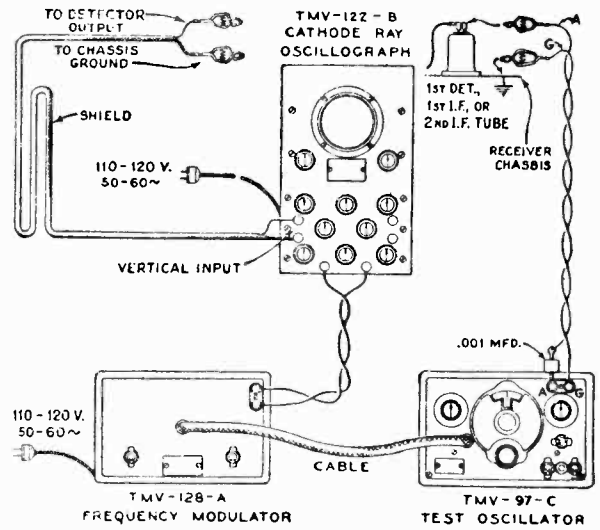
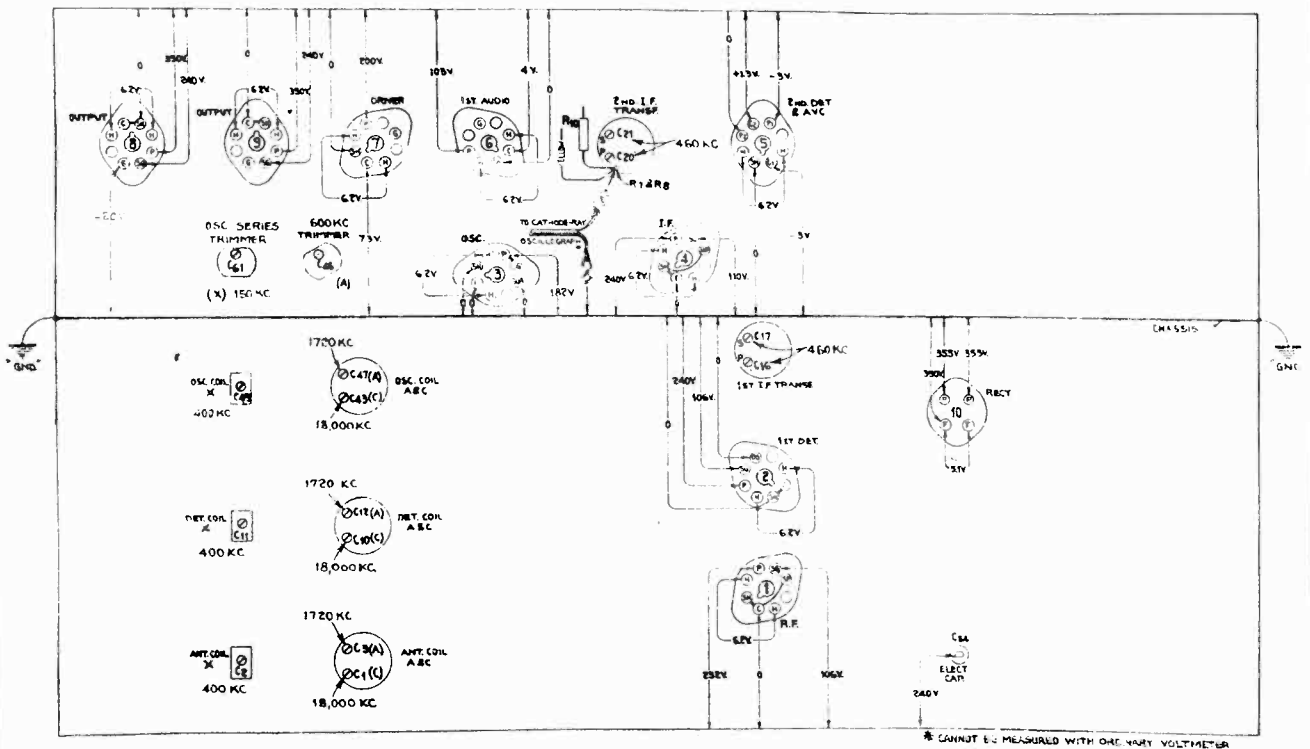

Figure 5—Alignment Apparatus Connections
Figure 6—Trimmer Locations and Radiotron Socket Voltages
The four trimmers of the two i-f transformers are located as shown by Figure 6. Each must be aligned to a basic frequency of 460 kc. The last transformer must be aligned firstly and the first transformer aligned secondly. For such a process, it is necessary to feed the output of the Full Range Oscillator to the stages in their order of alignment, adjusting the trimmers of each transformer and observing the effect at the second detector output on the Cathode-Ray Oscillograph. The proper point of connection of the Oscillograph is with its vertical "high" input terminal attached to the junction of R-7 and R-8, as illustrated in Figure 6, and with the "0" or ground terminal to the chassis. The "Ext. Sync" terminals of the Oscillograph should be connected to the Frequency Modulator as shown by Figure 5. A .001 mfd. capacitor installed in series with the Oscillator "Ant." lead will prevent the voltages of the stage under alignment from becoming upset. The vertical "A" amplifier should be "On" for the ensuing adjustments and its gain control kept at maximum. For each adjustment, the Oscillator output must be regulated so that the image obtained on the Oscillograph screen will be of the minimum size convenient for accurate observation. Proceed further as follows:—
- (b) Attach the output of the test Oscillator between the control grid cap of the RCA-6K7 i-f tube and chassis ground as shown typically by Figure 5. Tune the Oscillator to 460 kc. and set its modulation switch to "On." Regulate its output until the signal produces a wave pattern on the Oscillograph screen, adjusting the Oscillograph controls to give a shape which is convenient for peak indications. Cause the image to stand still on the screen by manipulation of the frequency and synchronizing controls. Then carefully tune the two trimmers C-20 and C-21 of the second i-f transformer to produce maximum amplitude (vertical deflection) of the oscillographic image. Under this condition the transformer will be sharply resonated to 460 kc.
The voltage values indicated from the Radiotron socket contacts to chassis on Figure 6 will serve to check on the location of causes for faulty operation. Each of these, as specified, should hold within  $\pm 20\%$  when the receiver is normally operative at its rated supply voltage. Variations in excess of this limit will usually be indicative of trouble in the basic circuits. The voltages given are actual operating values and do not allow for inaccuracies which may be caused by the loading effect of a voltmeter's internal resistance. This resistance should be duly considered for all readings. The amount of shunt resistance shunting the meter during measurement will determine the accuracy to be obtained, the error increasing as the meter resistance becomes comparable to or less than the circuit resistance. For the majority of readings, a meter having an internal resistance of 1000 ohms per volt will be satisfactory when the range used for each reading is chosen as high as possible consistent with good readability.
nary to have the tuning control of the Oscillograph on "Int." for this operation. After each trimmer has been peaked, the Oscillograph tuning control should be set to "Ext." and the Frequency Modulator placed into operation with its connections to the Oscillator and Oscillograph made in accordance with Figure 5. Turn the modulation switch of the Oscillator to "Off" and retune the Oscillator (increase frequency) until the forward and reverse waves show on the Oscillograph and become coincident at the highest points. Adjust the trimmer C-47, C-12, and C-3 again, setting each to the point which produces the best coincidence and maximum amplitude of the wave images.
(c) The Frequency Modulator should then be placed in operation and inter-connected to the full range Oscillator by means of the special shielded patch cord. Figure 5 shows the proper arrangement. Set the Frequency Modulator sweep range switch to its "Lo" position and turn the Oscillator modulation switch to "Off". Change the tuning control of the Oscillograph to No. 2 position. Then carefully shift the tuning of the Oscillator so as to increase its frequency until two distinct and similar waves appear on the Oscillograph screen and become exactly coincident at their highest points. This condition will be found to occur at an Oscillator setting of approximately 540 kc. The curves will be identical in shape but appearing in reversed positions. Adjust the frequency control of the Oscillograph in order to cause the waves to conform with the above requirement and to make them remain motionless on the screen. This will require a setting of approximately 1/2 scalewise rotation of the frequency control. If trimmers C-20 and C-21 should then be readjusted so that the two curves move together and become exactly coincident throughout their lengths, coincident through their maximum amplitude at which this condition can be brought about.
Locations of the various antenna, detector and oscillator trimmers are shown by Figure 6. The test Oscillator should be more closely connected with the I-F system and its output terminals should be made in the connections of the Oscillograph at the second detector. During the following adjustments, the Oscillator output should be regulated as often as is necessary to keep the oscillographic image as low as is practically observable. Adherence to this procedure will obviate the broadness of tuning that would result from a v.c. action on a stronger signal. Proceed with the adjustments as follows:—
(b) Attach the output of the test Oscillator between the control grid cap of the RCA-6K7 i-f tube and chassis ground as shown typically by Figure 5. Tune the Oscillator to 460 kc. and set its modulation switch to "On." Regulate its output until the signal produces a wave pattern on the Oscilloscope screen, adjusting the Oscilloscope controls to give a shape which is convenient for peak indications. Cause the image to stand still on the screen by manipulation of the frequency and synchronizing controls. Then carefully tune the two trimmers C-20 and C-21 to the second i-f transformer to produce maximum amplitude (vertical deflection) of the oscillographic image. Under this condition the transformer will be sharply resonated to 460 kc. in operation and interconnected with the Full Range Oscillator by means of the special shielded patch cord. Figure 5 shows the proper arrangement. Set the Frequency Modulator sweep range switch to its "Lo" position and turn the Oscillator modulation switch to "Off." Change the timing control of the Oscilloscope to "Ext." and place the range switch to its No. 2 position. Then carefully shift the tuning of the Oscillator so as to increase its frequency, until two distinct and similar waves appear on the Oscilloscope screen and become exactly coincident at their highest points. This condition will be found to occur at an Oscillator setting of approximately 540 kc. The curves will be identical in shape but appearing in reversed positions. Adjust the frequency control of the Oscilloscope in order to cause the waves to conform with the above requirement and to make them remain motionless on the screen. This will require a setting of approximately 1/2 clockwise rotation of the frequency control. The trimmers C-20 and C-21 should then be re-adjusted so that the two curves move together and become exactly coincident throughout their lengths, maintaining the maximum amplitude at which this condition can be brought about.
The four trimmers of the two i-f transformers are located as shown by Figure 6. Each must be aligned to a basic frequency of 460 kc. The last transformer must be aligned firstly and the first transformer aligned secondly. For such a process, it is necessary to feed the output of the Full Range Oscillator to the stages in their order of alignment, adjusting the trimmers of each transformer and observing the effect at the second detector output on the Cathode-Ray Oscilloscope. The proper point of connection of the Oscilloscope is with its vertical "high" input terminal attached to the junction of R-7 and K-8, as illustrated in Figure 6, and with the "0" or ground terminal to the chassis. The "Ext. Sync" terminals of the Oscilloscope should be connected to the Frequency Modulator as shown by Figure 5. A .001 mfd. capacitor installed in series with the Oscillator "Ant." lead will prevent the voltages of the stage under alignment from becoming upset. The vertical "A" amplifier should be "On" for the en-
Locations of the various antenna detector and oscillator coil trimmers are shown by Figure 6. The Oscillator should be removed from connection with the i-f system and its output connected to the antenna-ground terminals of the receiver. No changes are to be made in the connections of the Oscillograph at the second detector. During the following adjustments, the Oscillator output should be regulated as often as is necessary to keep the oscillographic image as low as is practically observable. Adherence to this procedure will obviate the broadness of tuning that would result from a v.c. action on a stronger signal. Proceed with the adjustments as follows:—